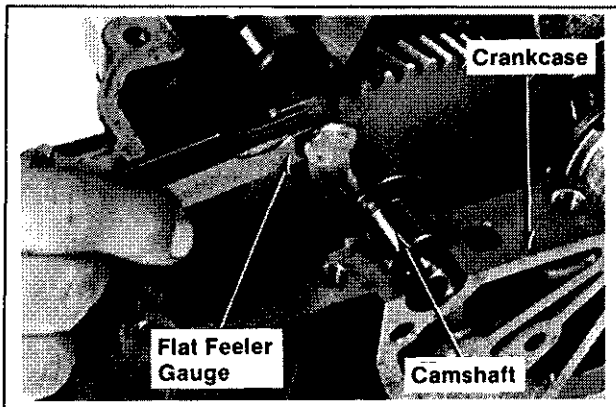

Figure 11-17. Measuring Camshaft End Play.
4. Measure the camshaft end play with a flat feeler gauge. The recommended camshaft end play is  $.003/.013$ ". Refer to Figure 11-17.